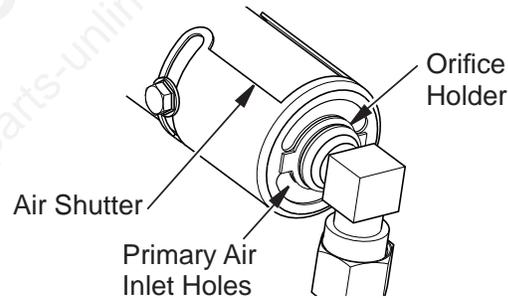

Figure 24 - Orifice Holder On Outlet Burner Tube
2. Inspect burner, pilot and primary air inlet holes on orifice holder for dust and dirt (see **Figure 24**).